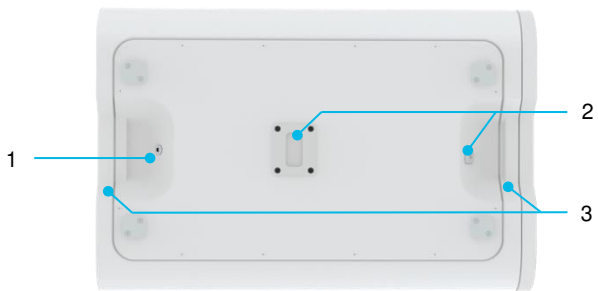

Figure 5: Bottom view of the Kidney Assist Transport Device
- Connect the external power cord to the device by slightly lifting the device and plugging in the power plug into the connector at the bottom of the device (figure 5, item 1). NOTE: The device shall not charge the batteries when connected to the mains, batteries must be charged in the separate charger.